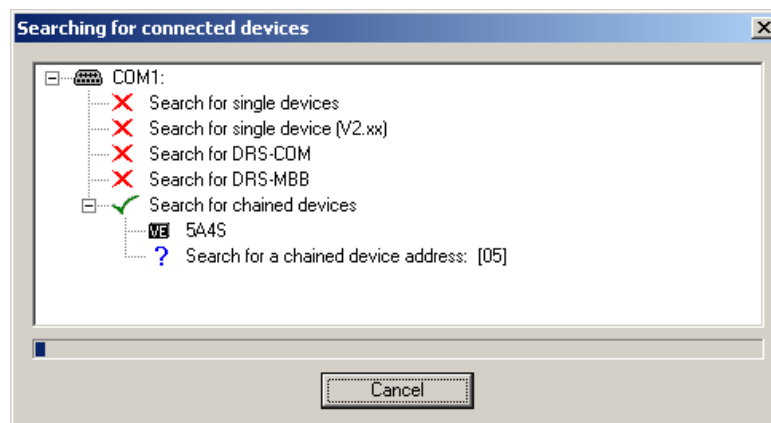

Fig. 3 Searching for devices
**You can cancel this process if you want to work offline (see Fig. 3). With the offline mode you can only load and configure DRS-files. Use this mode if you only want to view DRS-files or if you are not so experienced with DRS-WIN. Then you avoid mistakes that can cause problems in the online mode (also see 4.2 Binary In- / Output Preset).**